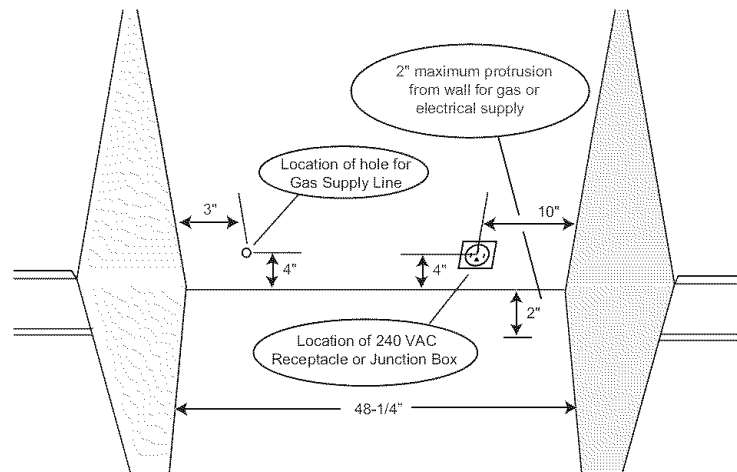

Figure 3a: Gas & Electrical Supply Locations for Dual Fuel Ranges
3. The gas and electrical supply should be within the zones shown in Figure 3a.